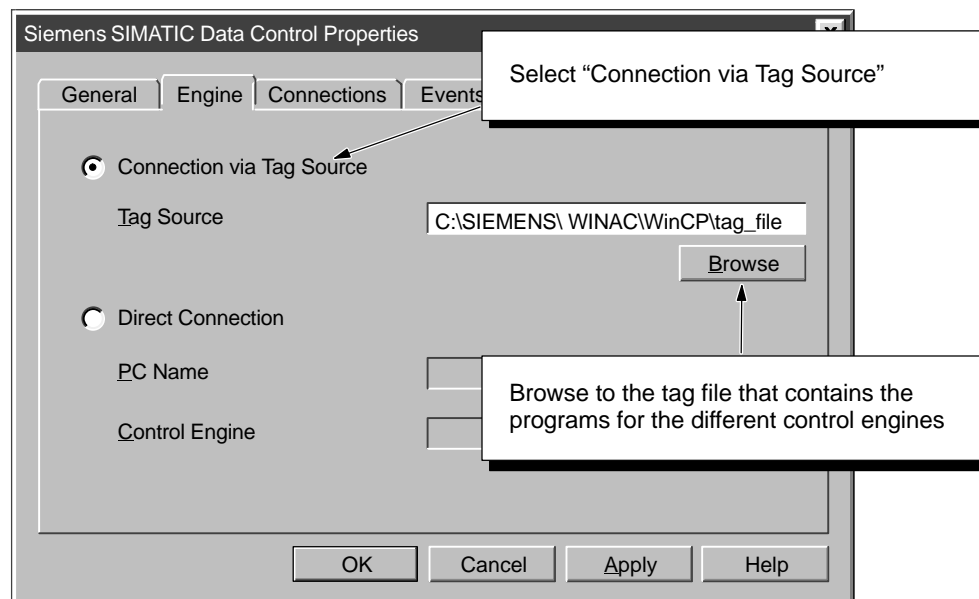

Figure 9-3 Configuring the Data Control for Multiple Control Engines
4. Click on the “Engine” tab to display the configuration choices. See Figure 9-3.